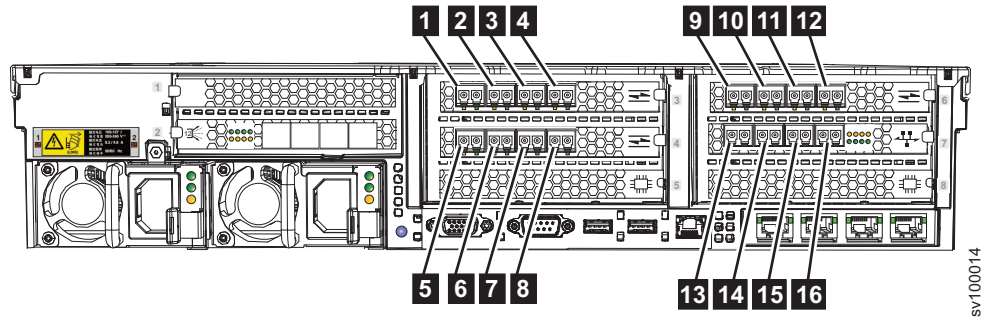

Figure 21. Fibre Channel port numbers in a typical configuration
Figure 21 shows the physical Fibre Channel (FC) port numbers when the 10 Gbps Optical Ethernet adapter is configured for Fibre Channel over Ethernet (FCoE) communications.